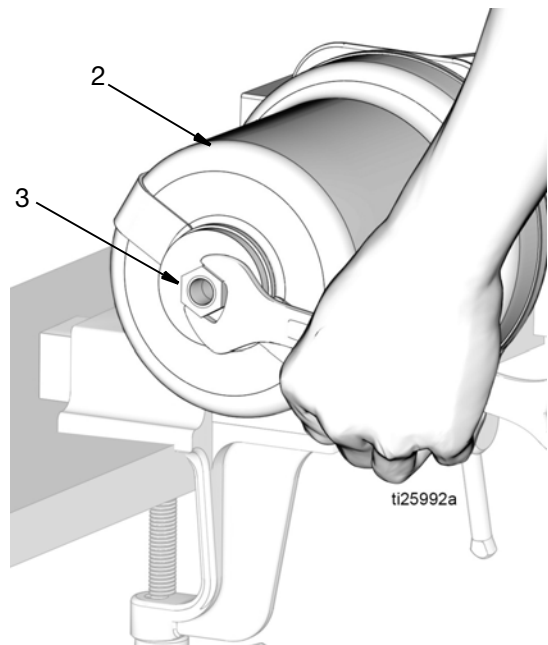

FIG. 15
12. Remove piston stop nut (3) from top of the air cylinder (2) (FIG. 15).